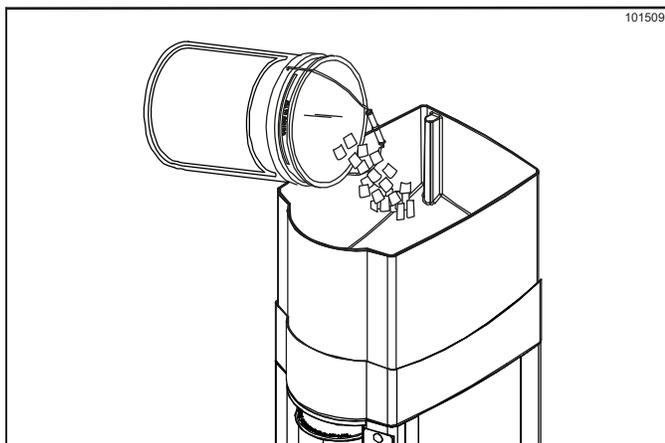

Figure 6-1
4. Fill the ice hopper to within 1 in. (25 mm) of the top with clean, drop/commercial cube ice. (See Figure 6-1.)